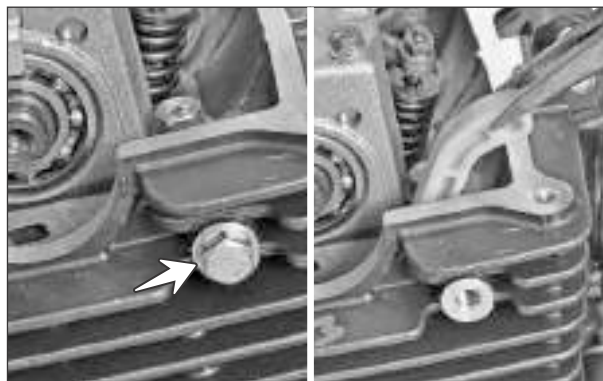

Fig. 3.40
- 1 Take out the cam chain tensioner by removing the bolt cam chain tensioner along with washer cam chain tensioner. (Fig. 3.40)